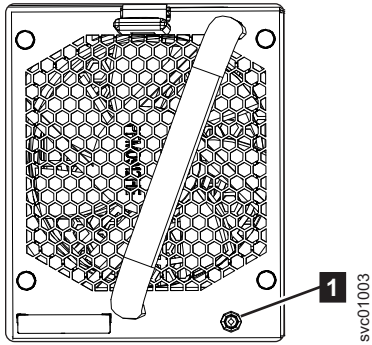

Figure 117. Fan module LED
1. Identify the fan module to be replaced. When lit, the amber LED on the front of the fan module (**1** in Figure 117 on page 124) identifies a fault.